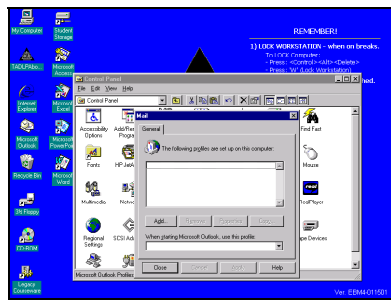

FIGURE II.3
- 3) When the “Mail Window” opens it should be blank. (see figure II.3) Position the cursor over the “Add” button and left click the mouse button one time